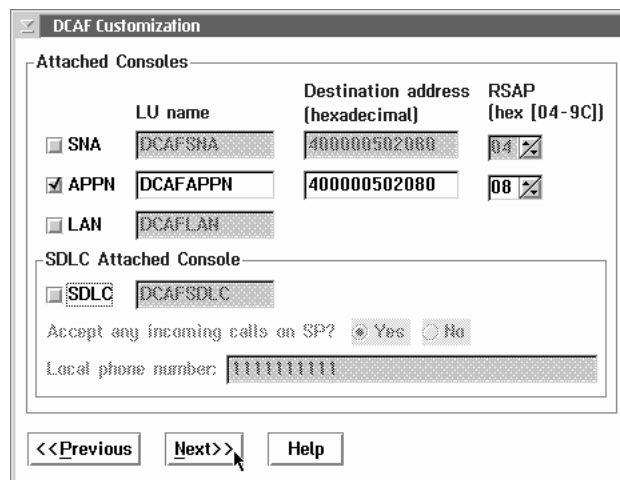

Figure 13-2. DCAF Customization
APPN LU name (Figure 13-2 on page 13-3)	LU name (Step 11 on page 13-7)
APPN Destination address (Figure 13-2 on page 13-3)	LAN Destination address (Step 11 on page 13-7)
RSAP (Figure 13-2 on page 13-3)	Remote SAP (Step 11 on page 13-7)
- b. Second part matches the **APPN LU name** in Figure 13-2 on page 13-3.